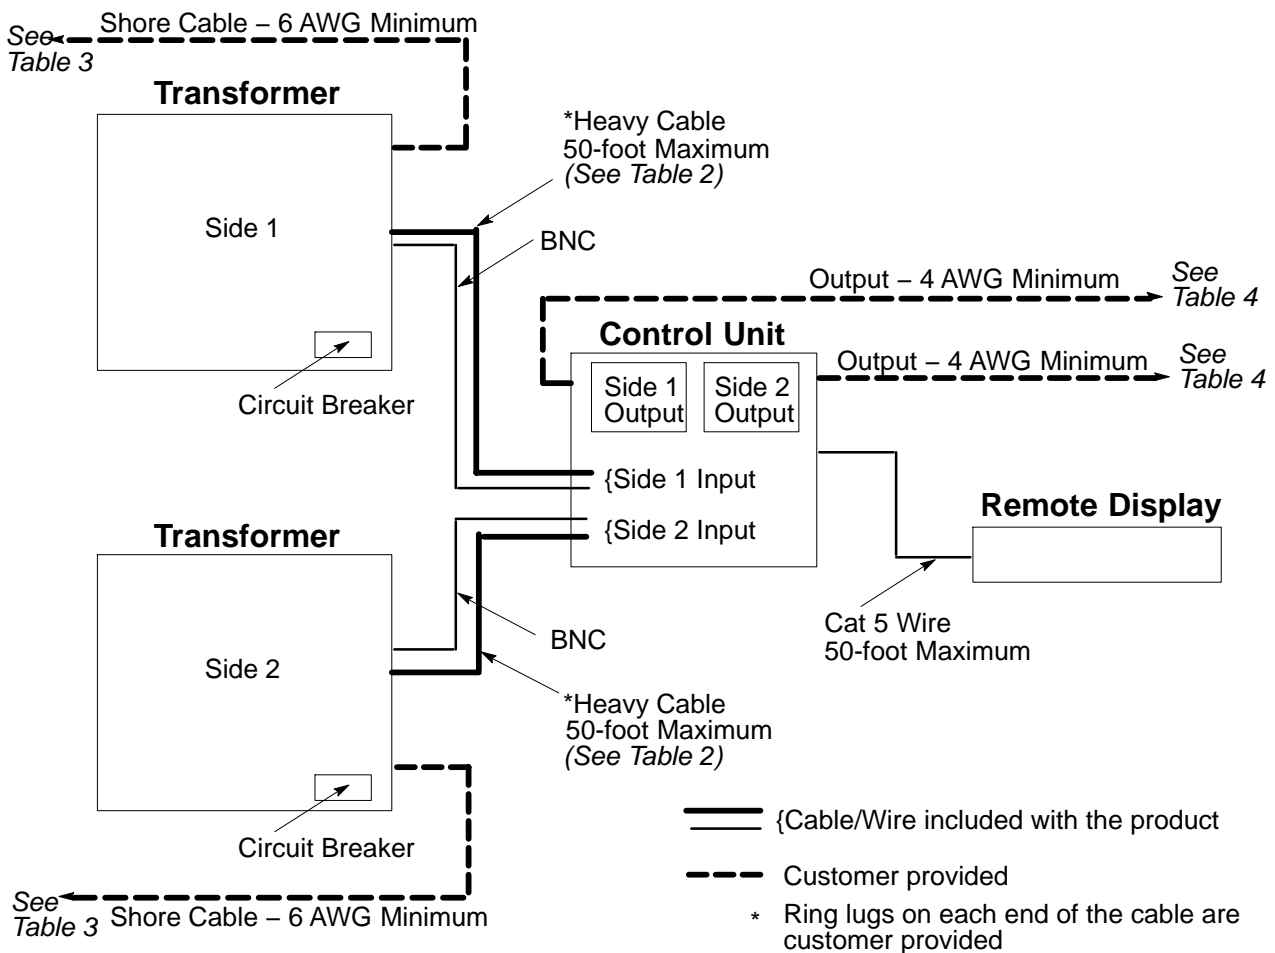

Figure 5. Typical Wiring Connections
While making connections to the PM3™ reference Figure 5.
8.	Connect all wiring as shown in Figure 5 and described in Table 2 through Table 4.
Connect the BNC-BNC cables from the transformers to the control unit (see Figure 5).